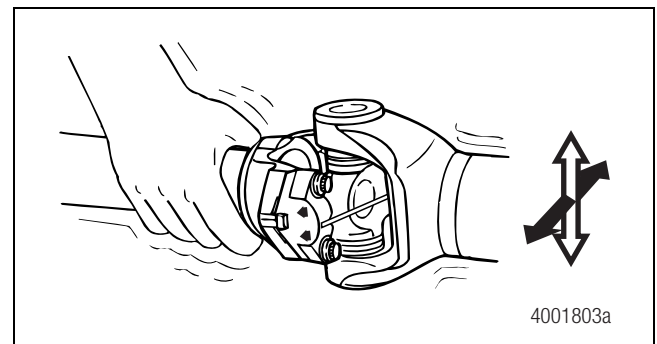
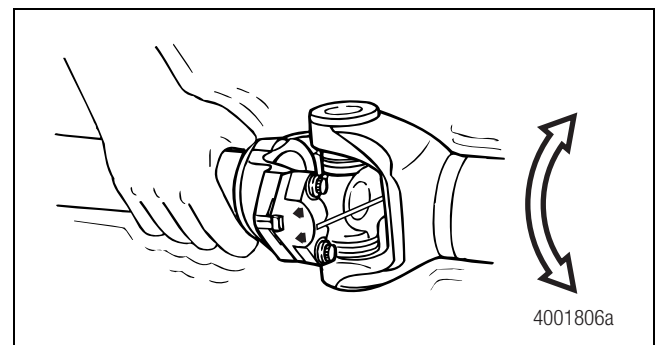

Figure 3.12
Figure 3.13
1. Check the universal joint for end play. Apply force in an UP-AND-DOWN and SIDE-TO-SIDE motion. The universal joint must not move in either direction. Figure 3.12. There should be less than 0.006-inch (0.152 mm) BACK-AND-FORTH motion of the universal joint. Figure 3.13.